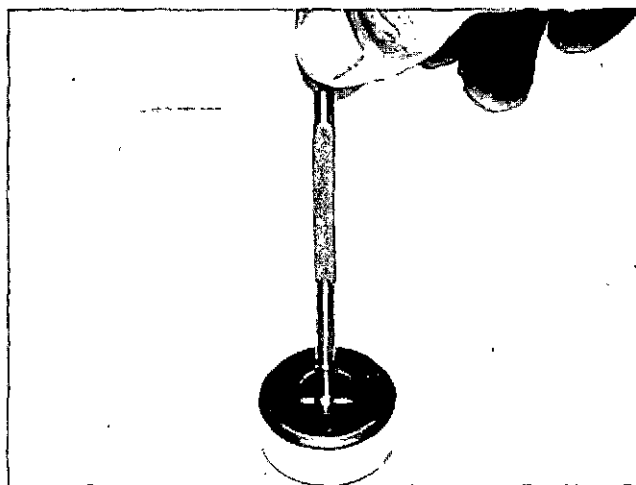
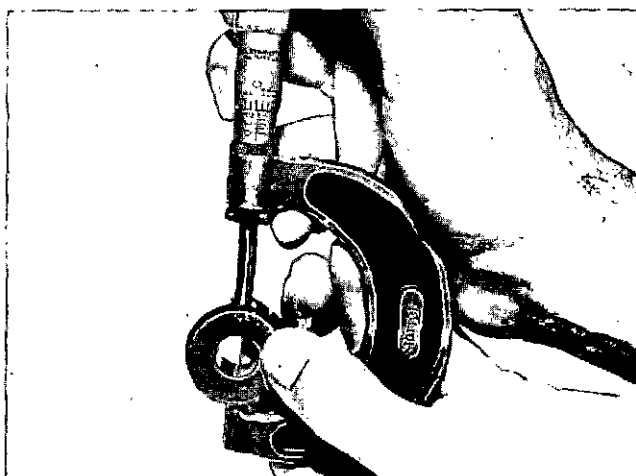

Fig. 4-10 (N10414). Measure The I.D. Of The Cam Roller.
Fig. 4-11 (N10415). Measure The O.D. Of The Cam Roller.
8. Inspect the rollers. Use a small bore gauge to measure the inside diameter of the rollers, Fig. 4-10. Check the rollers to be sure they are not out-of-round. See Table 1 for the dimensions of the rollers. Use micrometers to measure the outside diameter at the roller, Fig. 4-11. The outside diameter of the roller must have a common center within 0.002 inch [0.05 mm].